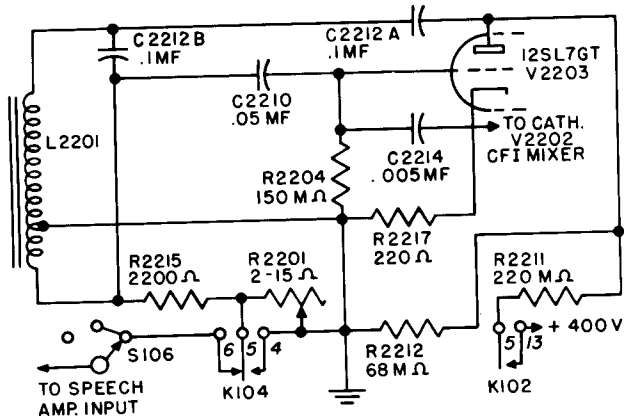

Figure 4-10. MCW Audio Oscillator Circuit
e. MCW AUDIO OSCILLATOR.—Contacts 5 and 13 of keying relay K102 apply voltage to the plate of the audio oscillator section of 12SL7GT tube V2203 when keying relay K102 is operated. Refer to figure 4-10. The audio frequency output level of this oscillator and consequently the percentage of MCW modulation is controlled by varying resistor R2201. The screwdriver slot for varying resistor R2201 is accessible through a hole on